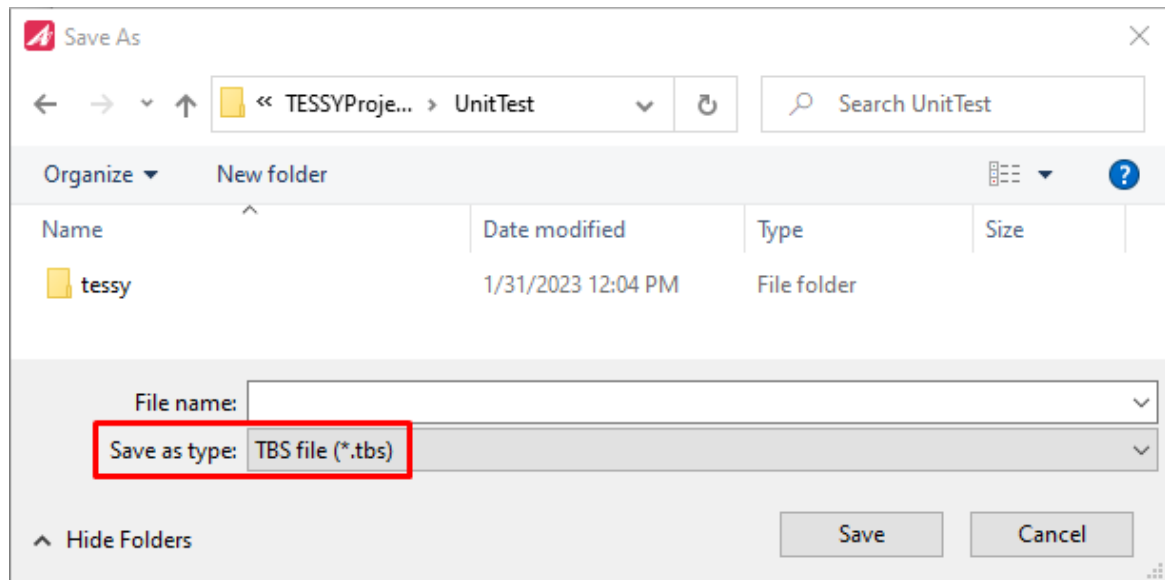

Figure 6.58: Saving the settings of a batch operation as TBS file
- Choose the type of the file and click “Save” (see figure 6.58).